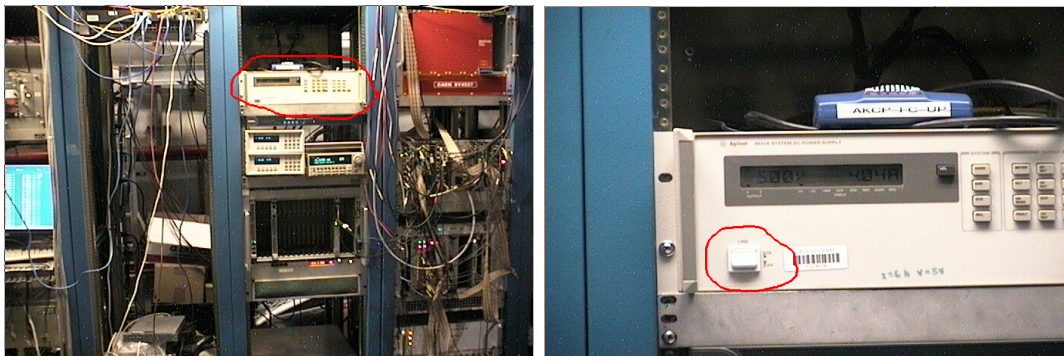

Figure 17: Location of Agilent LV power supply near the top of the middle rack in the pie tower. Power switch is circled in red.
- The LV supply is on the Pie Tower at the top of the middle rack. See figure 17.